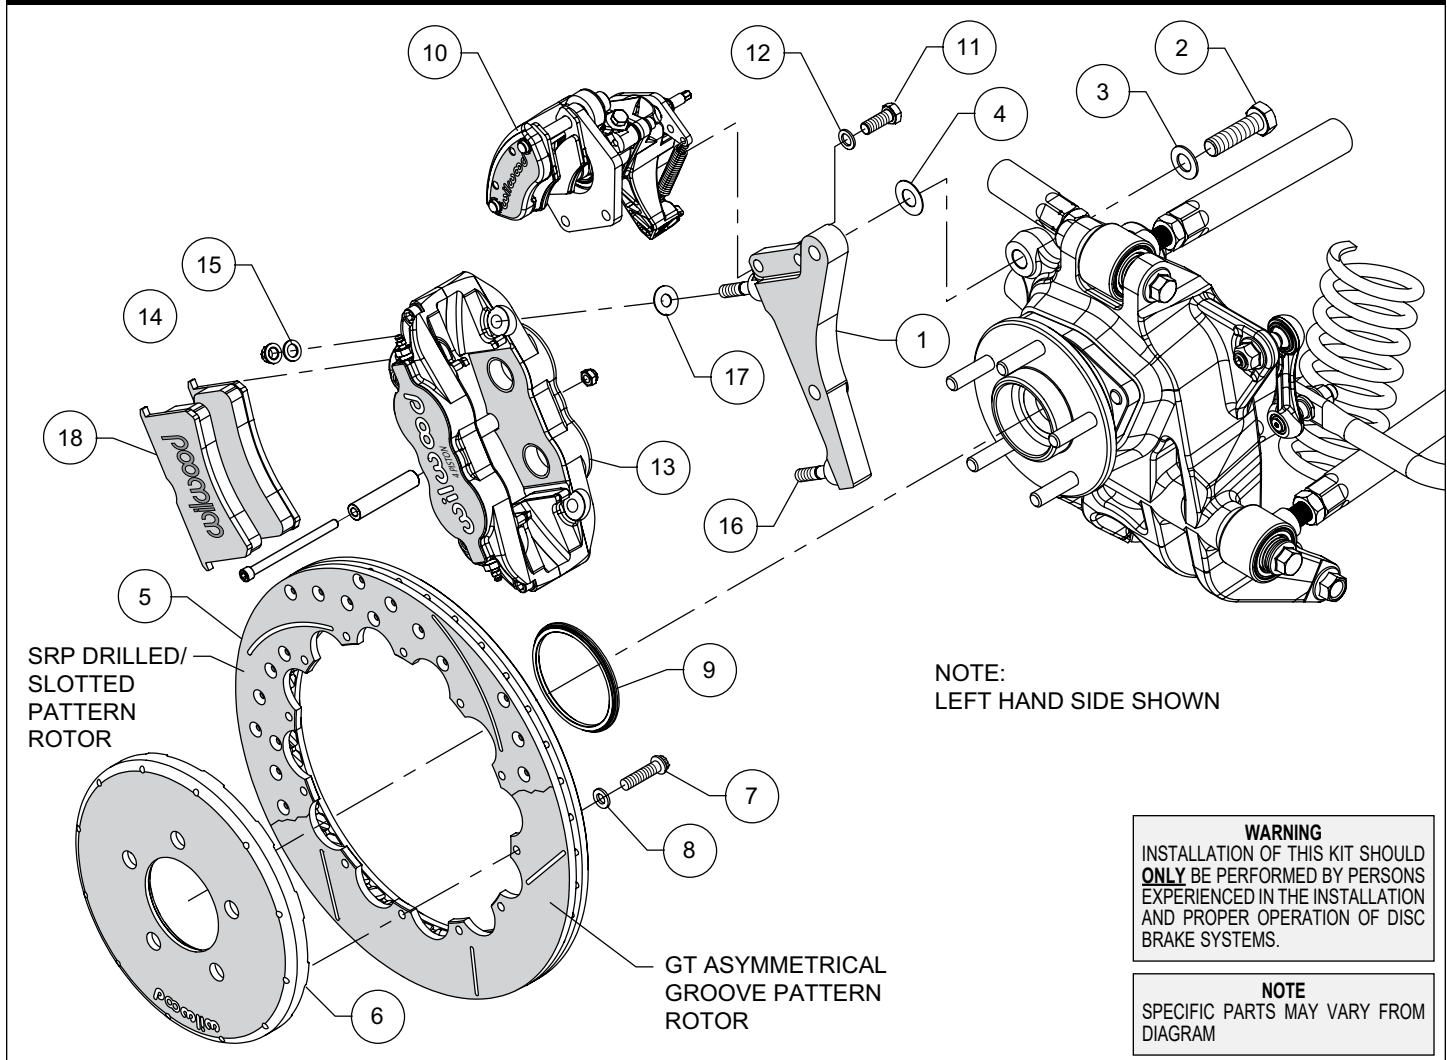
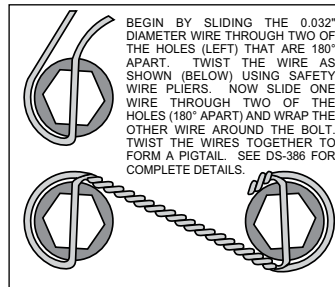

Figure 1. Typical Installation Configuration
Figure 3. Safety Wire Diagram
NOTE: Numbers in parenthesis refer to the parts list and Figure 1 on the preceding pages.
- The caliper mount bracket (1) should initially be installed with clean, dry threads on the mounting bolts. Orient the bracket as shown in Figure 1, and Photo 1, and install using bolts (2) and washers (3). Initially place one .029" thick shim (4) on each bolt between the bracket and upright, Figure 1. Temporarily tighten the mounting bolts. **NOTE:** *The bracket must fit squarely against the mount bosses on the upright.* Inspect for interference from casting irregularities, machining ridges, burrs, etc. Later, after the caliper alignment has been checked, the mount bolts will be secured using red *Loctite*® 271.
- Orient the rotor (5) and the hat (6) as shown in Figure 1 and Photo 2. Attach rotor to hat using bolts (7) and washers (8). Apply red *Loctite*® 271 to the bolt threads and torque to 155 in-lb using a criss-cross pattern. For an added measure of security, the bolts may be safety wired using standard 0.032 inch diameter stainless steel safety wire as shown in Figure 3. Please refer to Wilwood's data sheet DS-386 (available at www.wilwood.com/Pdf/DataSheets/ds386.pdf) for complete safety wire installation instructions.
- Initially place one .035" thick shim (17) on each stud (16) as shown in Figure 1 and Photo 5. Mount the caliper (13) onto the bracket (1) using lock nuts (14) and washers (15), Figure 1. Temporarily tighten the lock nuts and view the rotor through the top opening of the caliper. The rotor should be centered in the caliper, Photo 6. If not, adjust by adding or subtracting shims (4) between the bracket and the mounting bosses. Always use the same amount of shims on each of the two mounting bolts. Once the caliper alignment is correct, remove the bracket mounting bolts (2) one at a time, apply red *Loctite*® 271 to the threads, and torque to 77 ft-lb.
- Orient the parking brake caliper (10), as shown in Figure 1 and Photo 10, and mount onto the top section of the caliper mounting bracket (1) using bolts (11) and washers (12), Figure 1. Apply red *Loctite*® 271 to bolt threads, and torque to 30 ft-lb.